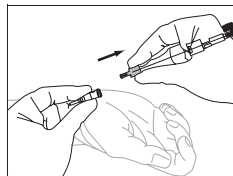

Figure 7
- Grasp catheter hub in one hand and needle protection assembly in the other hand (refer to Figure 7). Disconnect needle protection assembly from catheter hub. Pulsatile blood flow indicates positive arterial placement.